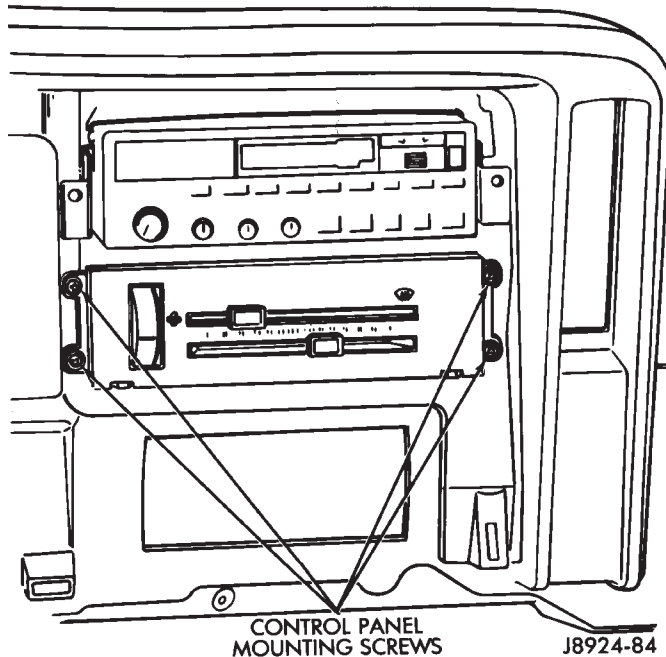

Fig. 4 Control Panel Mounting Screws
- (5) Remove the A/C-heater control panel screws (Fig. 4).